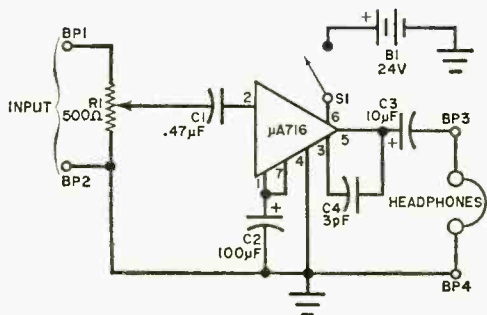

Fig. 2. Suggested by Fairchild Semiconductor, this circuit makes a good, high-output (50-mW), low-distortion, general-purpose headphone amplifier.
**Manufacturer's Circuits.** The circuits illustrated in Figs. 2 and 3 especially appropriate at this time in view of the increasing interest in IC devices and their applications. Both circuits feature "stock" IC assemblies and both can be duplicated quite easily in the average home workshop. In each case, the schematic symbol for a linear amplifier (a triangle) is used to represent the IC device. The lead numbers refer to corresponding pin connections on each device.
Designed for use with 500- to 600-ohm headsets, the headphone amplifier circuit illustrated in Fig. 2 has an overall gain of 100 and can provide up to 50 mW output with less than 0.2% distortion over the audio frequency spectrum. It is one of several applications for the  $\mu A716$  linear amplifier described in a technical applications bulletin published by Fairchild Semiconductor.